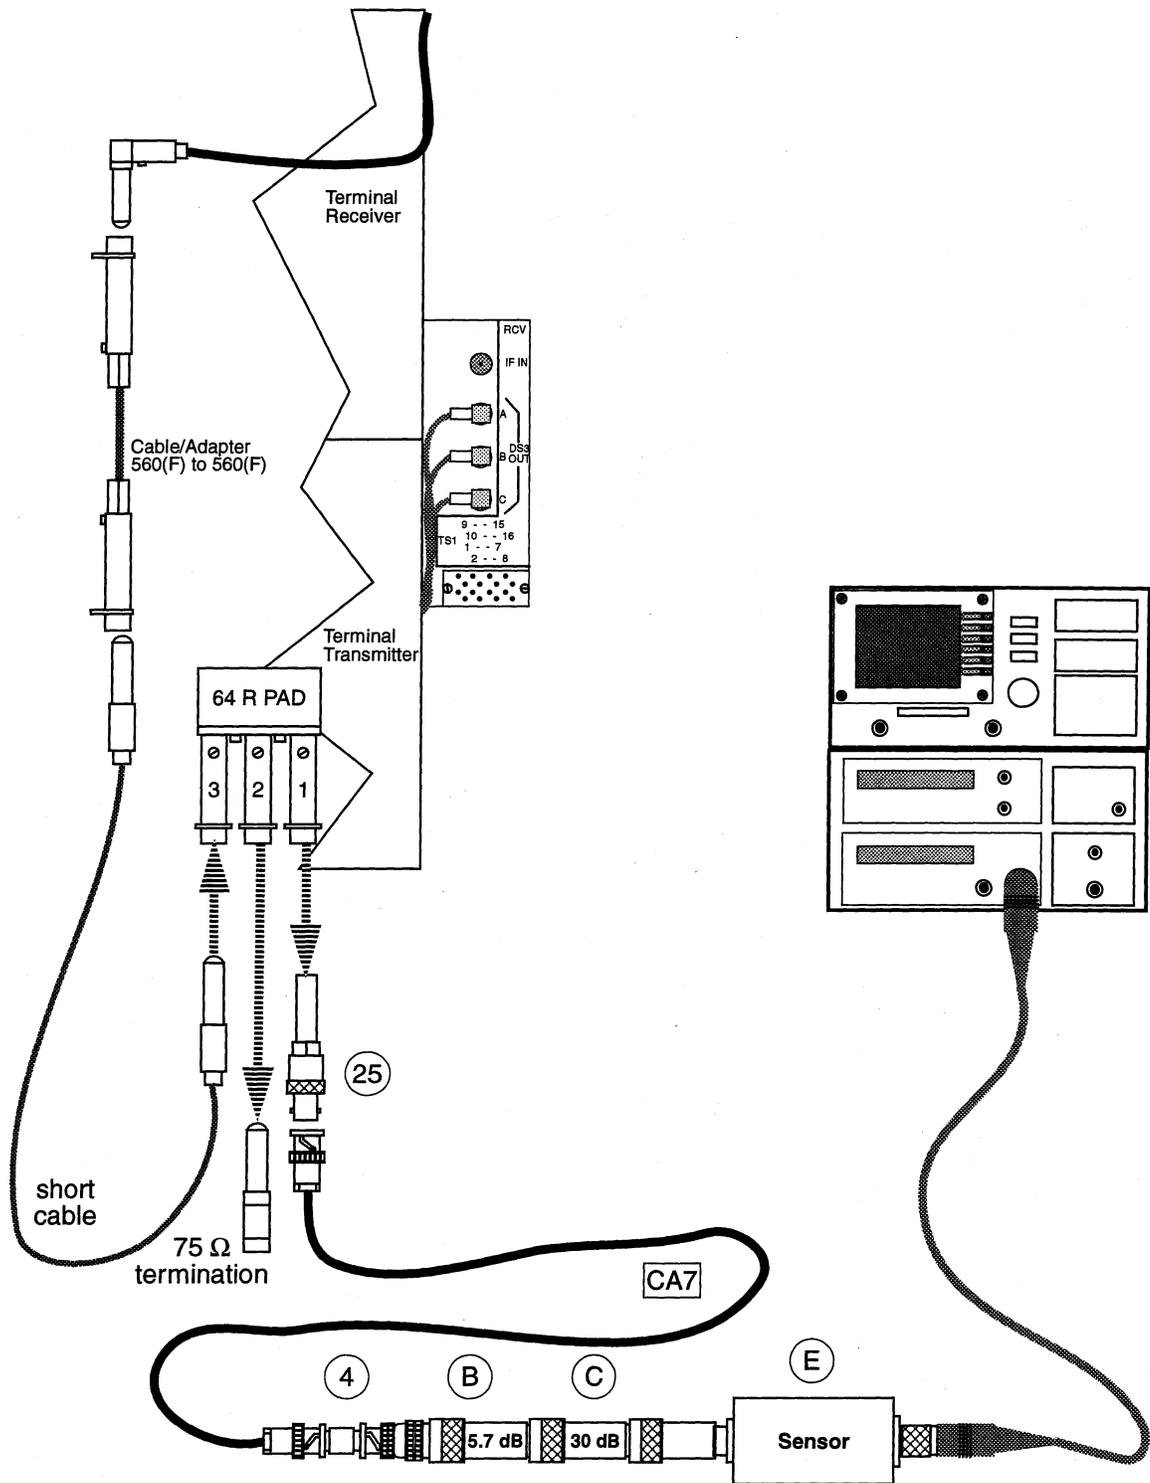
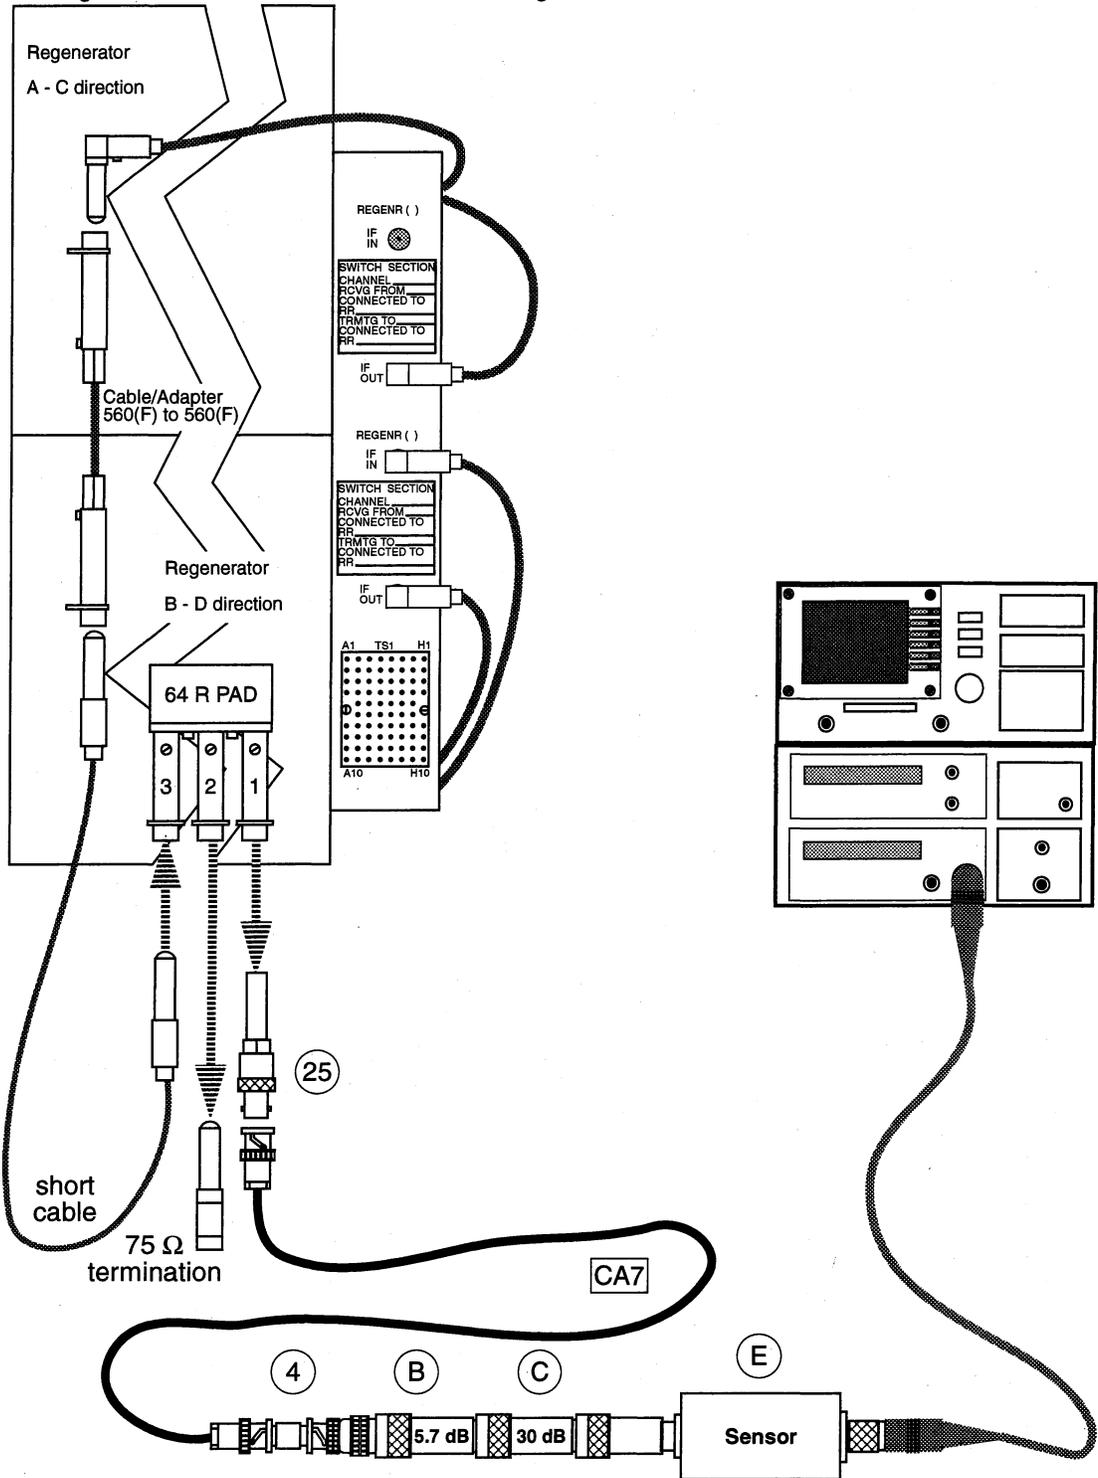

Figure 16. Terminal Over-the-Air—Measure “S”
Figure 17. Regenerator Over-the-Air—Measure "S"
## 4 Connect the test equipment as shown in Figure 16 (Terminal) or Figure 17 (Regenerator).
*Comment: In Figure 17 the Regenerator A - C direction is illustrated. The lower jacks are for the B - D direction.*